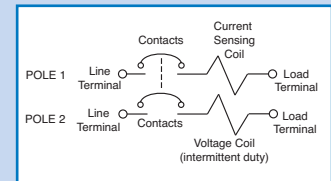

Fig. 3 - SERIES TRIP WITH REMOTE SHUTDOWN
As the normal operating or "rated" current flows through the sensing coil, a magnetic field is created around that coil. When the current flow increases, the strength of the magnetic field increases, drawing the spring-biased, movable, magnetic core toward the pole piece. As the core moves inward, the efficiency of the magnetic circuit is increased, creating an even greater electro-magnetic force. When the core is fully "in", maximum electro-magnetic force is attained, the armature is attracted to the pole piece, unlatching a trip mechanism, thereby opening the contacts. (Fig. 3)
■ Figure 3 - MODERATE OVERLOAD WITH INDUCED DELAY
When the delay tube is filled with a light viscosity (temperature stable) fluid, the core's travel to the full "in" position will be intentionally delayed. This results in the slightly longer Medium Delays (Fig. 3), which are used for general purpose applications.
■ Figure 3 - MEDIUM DELAY CURVE
For "dump" circuit or "panic" circuit applications. Same as a Series Trip but with an additional (self-interrupting) "voltage coil" pole (usually of opposite polarity) for remote shutdown. In the example, a momentary voltage pulse to Pole 2 will shut down both Pole 1 and Pole 2. Because the voltage coil in Pole 2 is self-interrupting, no additional components, such as auxiliary switches, are required in that circuit. (Fig. 3)